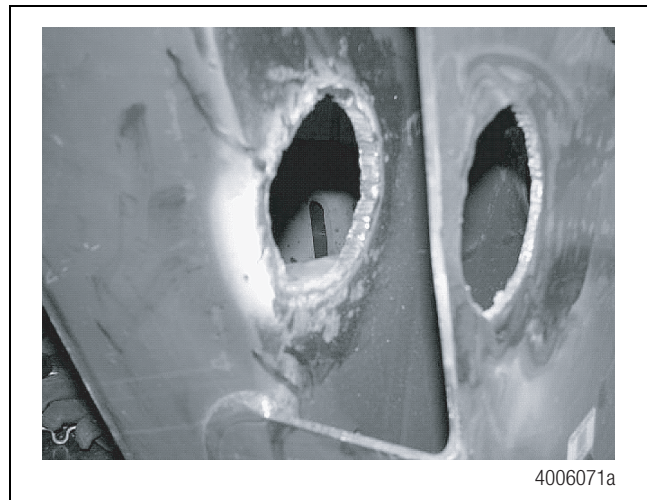

Figure 16
6. Use a suitable tool to cut on the line marked around the washer in the previous step to remove the damaged area of the side plate. Figure 16.